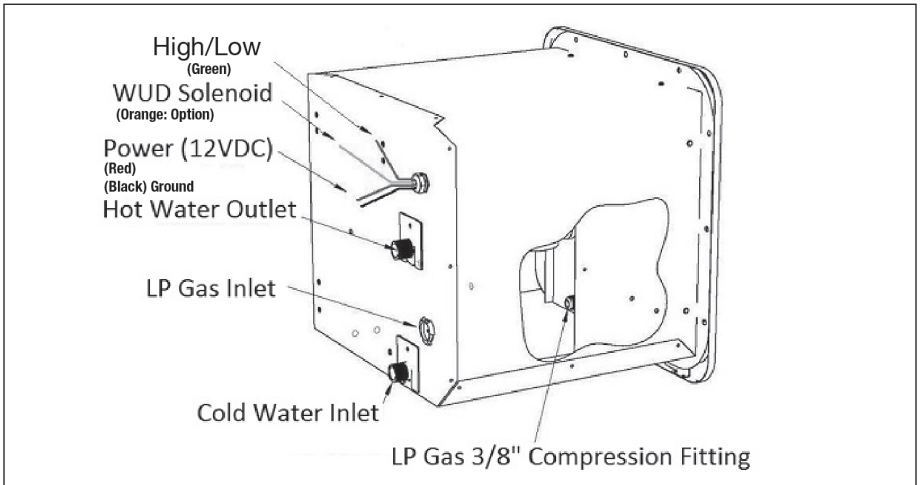

Figure 2
Partially insert the water heater into the opening and connect both Hot and Cold water lines to the appropriate 1/2" NPT fittings. Connections can be made using PEX swivel nut adaptors with NPS straight threads and a cone seal or with a standard 1/2" FPT nut. The PEX swivel nuts require only hand tightening. When using a standard 1/2" FPT nut use Teflon tape and/or PTFE pipe paste and do not over-tighten (Figure 2, page 6).
Connect the gas using a 3/8" LP Gas line. Place the grommet on the line ahead of the compression nut before flaring the tube (Figure 2). Use additional caulking as needed to complete a permanent seal with the housing around the rubber grommet.
- The length of the external wires, those wires extending beyond the strain relief from the rear of the housing (Figure 2), must NOT be shortened for any reason. Shortening these wires will prevent the removal of the Control Housing during servicing and/or testing.